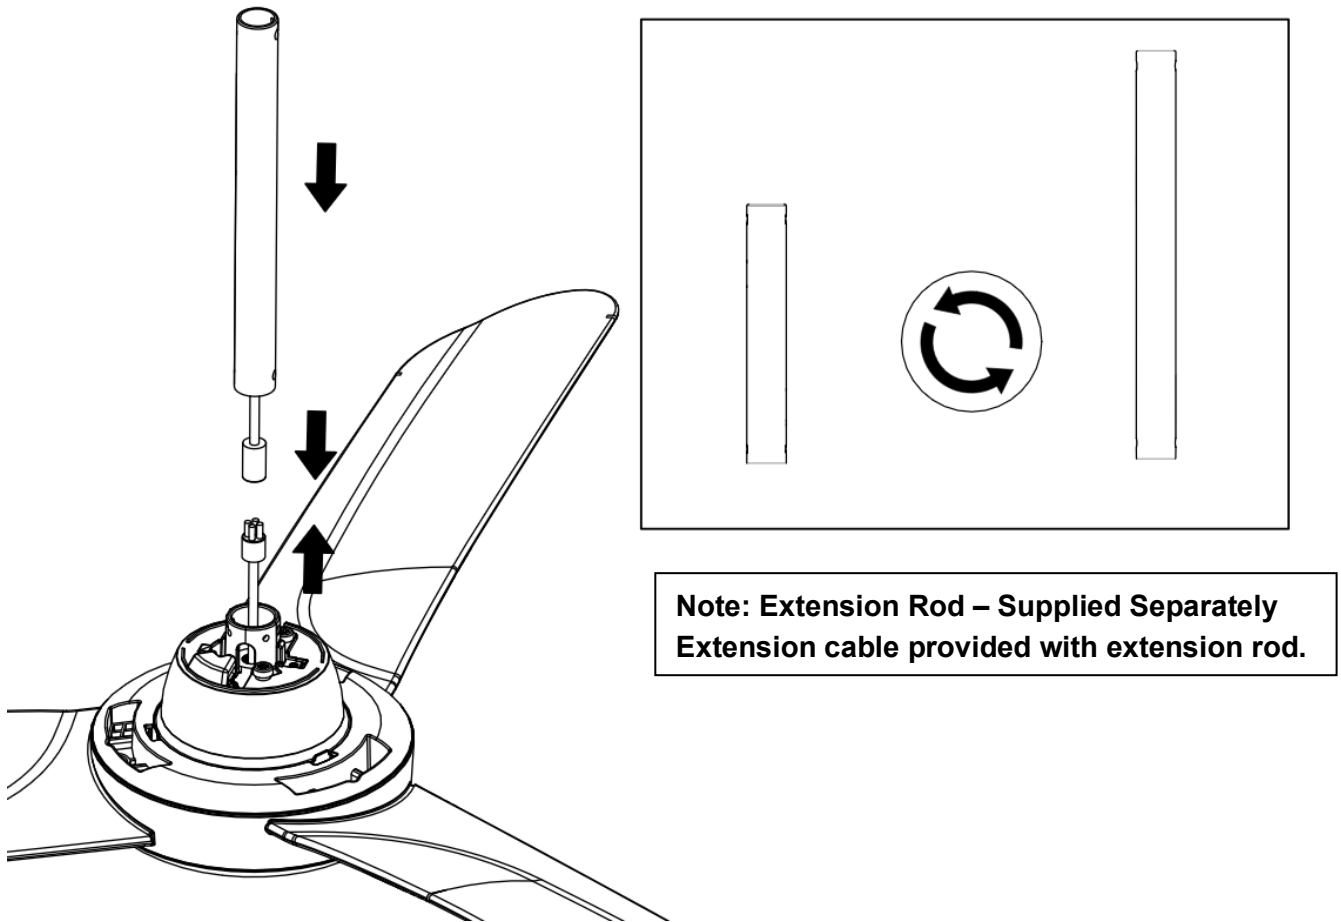

Fig. 8.4
2. Replace the original down rod with the extended one. Connect the extended cable (provided with the extension rod) to the wiring of the fan assembly (Fig. 8.4)